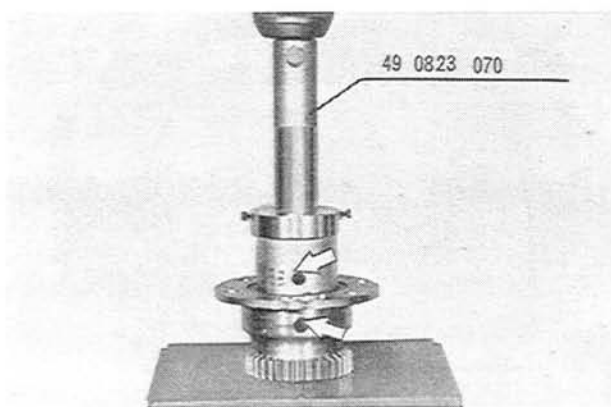

Fig. 1-35 Installing main bearing
5. Attach the adapter on the main bearing puller and installer and use it to press the bearing into the gear until the adapter touched the gear flange. Be sure to match the oil holes of bearing and gear, as shown in Fig. 1-35.